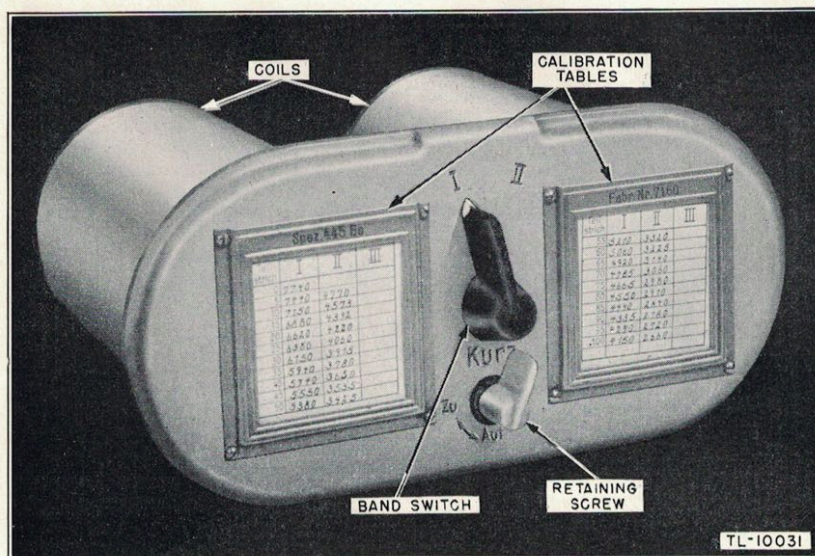

Figure 2. Typical plug-in coil unit for German radio receiver, Spez. 445 b Bs.
b. Plug-in Coil Units. The frequency range of the set is made possible by the use of three plug-in coil units. Each of these units (fig. 2), has a band switch incorporated within it. Calibration tables are provided for each of the frequency ranges covered and correspond to the readings on the tuning dial. The approximate frequency coverages of the plug-in coil units are listed below: